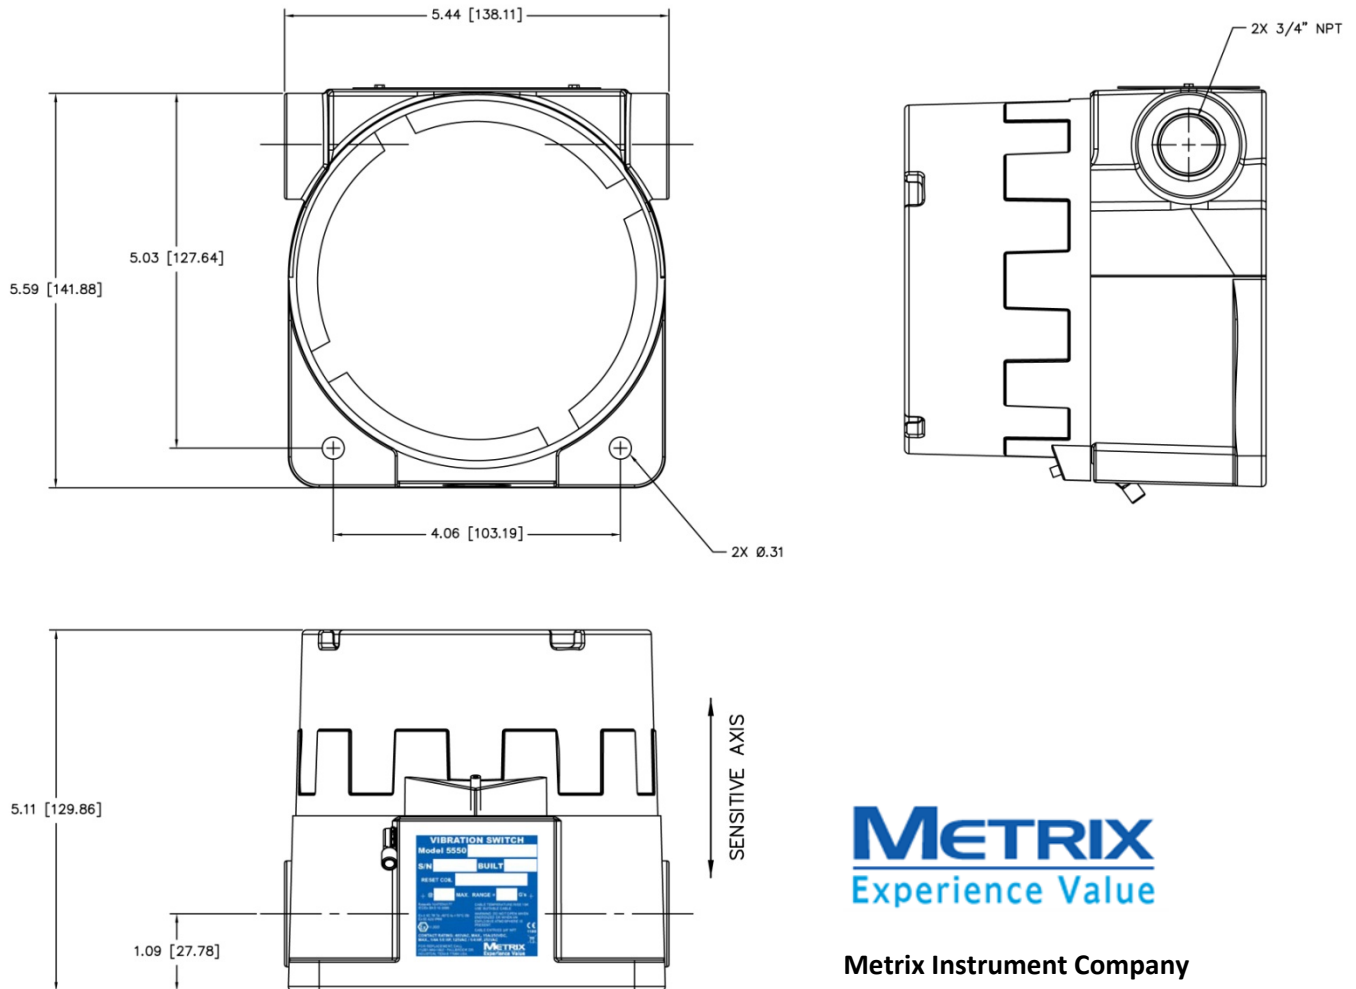

Figure 2 – 5550G Mechanical Vibration Switch.
- When options C=2 and D=3 are simultaneously specified (2g, 24Vdc reset coil), the switch sensitive axis (see Figure 2) MUST be oriented vertically with the cover facing up. This coil lacks sufficient holding strength to support the trip plate when the switch is mounted horizontally or upside down. The switch may be mounted at any orientation for all other options.
- Consult Figure 2 for mounting dimensions.